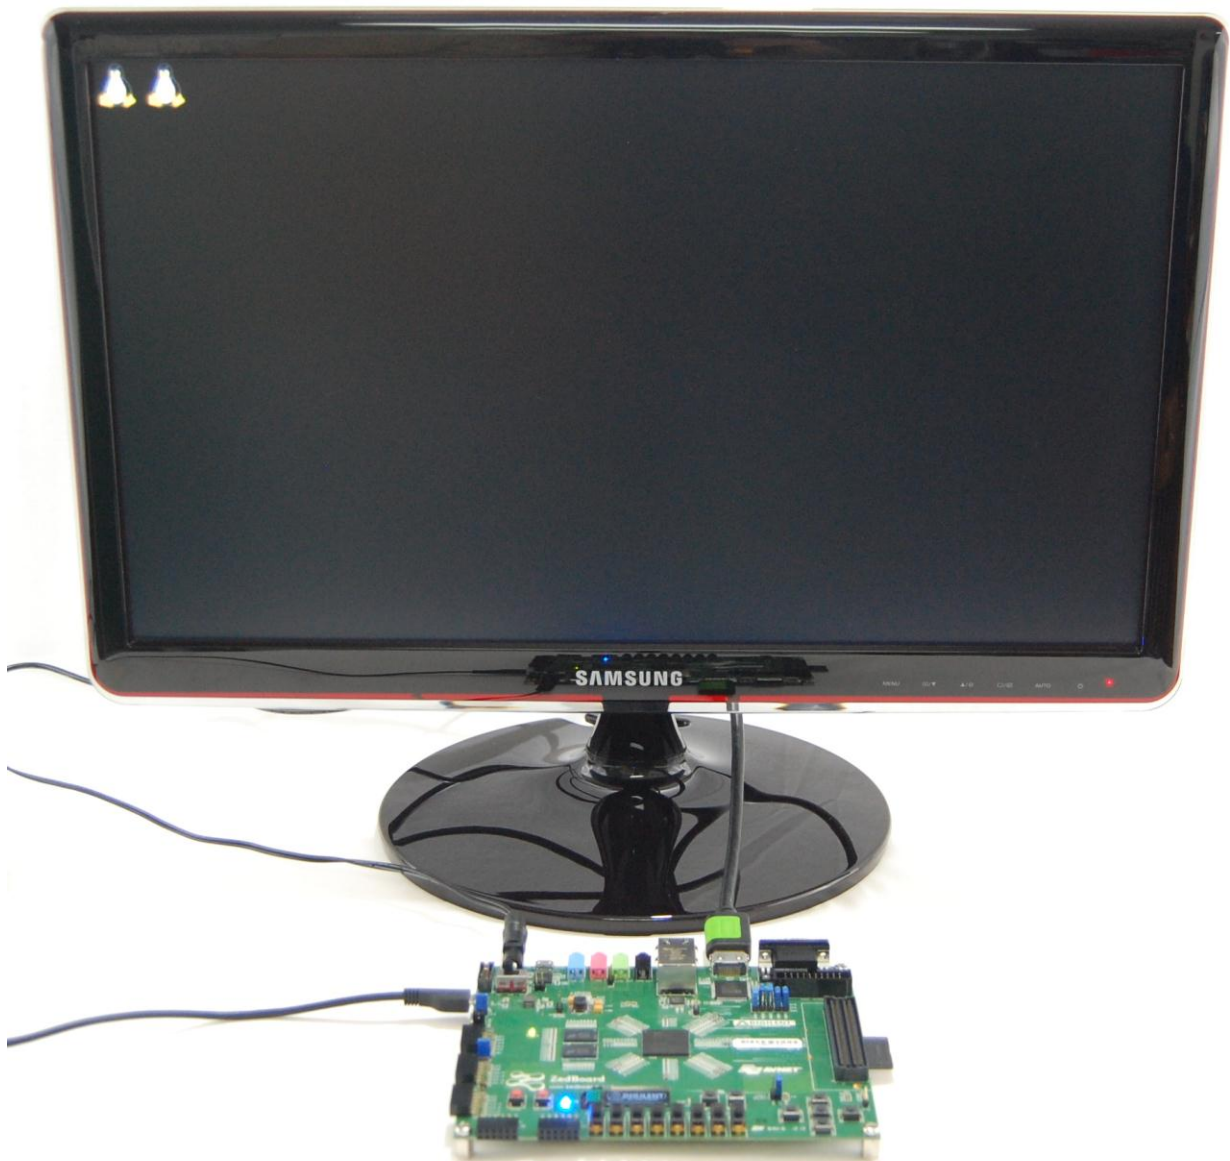

Figure 12 – HDMI Output Pattern
4. Wait approximately 15 seconds. The blue Done LED (LD12) should illuminate, and a default image will be displayed on the OLED (DISP1). The HDMI output pattern will also show on the display as seen in Figure 12.